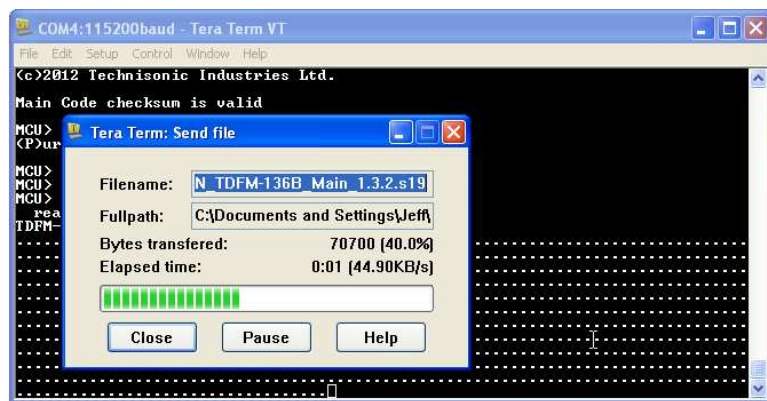

FIGURE 15: Downloading Software
- p) On the terminal program a stream of dots will be displayed as the data goes into the radio. Figure 15 shows the progress bar on the terminal while the download is in progress.